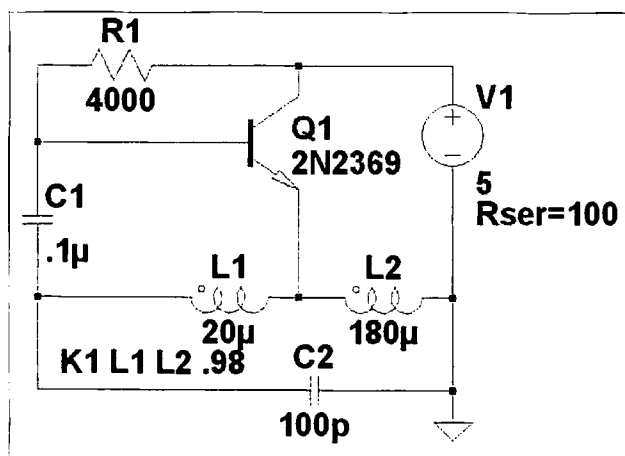

Fig. 1. Schematic of a squegging Hartley oscillator as displayed in SwitcherCAD III for Windows.
A squegging oscillator is an elegant two-for-one solution to the problem. Fig. 1 shows how simple it can be. If you have studied for your Extra Class ticket, you'll remember that a Hartley oscillator has a tapped inductor that provides feedback to sustain oscillation. (And if you took your test 25 years ago as I did, you'll remember having to do freehand drawings of Hartley and Colpitts oscillators as part of the test!) L1 and L2 form the tapped inductor in this case. Both are wound on the same form for tight coupling, indicated by coupling factor (K) of 0.98 in the schematic.
Figs. 1 and 2 were created in SwitcherCAD III, a freeware circuit analysis program based on the classic SPICE analytical engine. To learn more about squegging oscillators, download the program,³ input this circuit, and run a transient analysis. Then try varying the component values to see what happens to the RF pulse rate, pulse duration, and RF frequency.